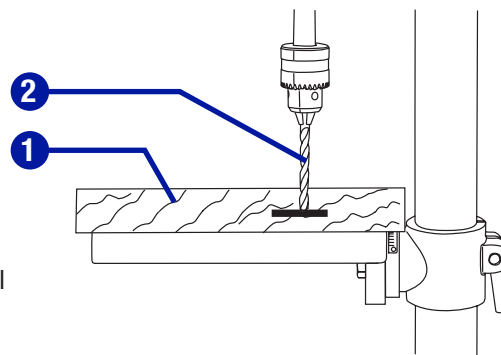

Fig. 26
**WORKPIECE METHOD (Fig. 26)**
- Mark the desired depth of the hole on the side of the workpiece (1).
- With the switch off, bring the drill bit (2) down until the tip is even with the mark.